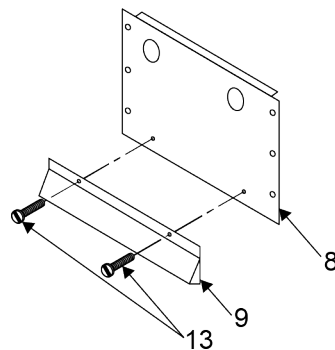

Figure 2-9 Heat Shield Deflector Assembly
- 5) Loosen the two screws (13) on the heat shield deflector (9), on the firebox and flue assembly and raise the deflector to its highest position, see Figure 2-9 *Heat Shield Deflector Assembly*, page 30.
- 6) Retighten screws (13) to hold the heat shield deflector (9) in the high position, see Figure 2-9 *Heat Shield Deflector Assembly*, page 30.
- 12) Install u-bolt (3) to rinse hose bracket and gas line.
- 13) Turn the filter valve handle (4) to the CLOSED position.
- 14) Loosen the two screws (13) which are holding the heat shield deflector (9) in the high position, and lower it to the normal operating position, see Figure 2-9 *Heat Shield Deflector Assembly*, page 30.
- 15) Tighten the two screws (13) on the heat shield, see Figure 2-9 *Heat Shield Deflector Assembly*, page 30.